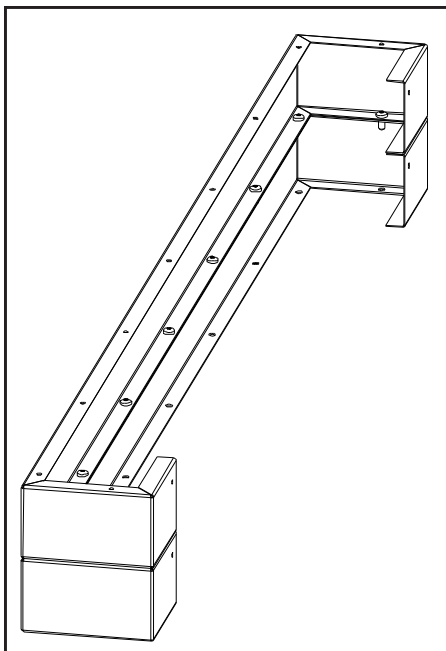

Figure 35: Combining 2 Base Shelf Riser.
2. When using more than one riser each level must be attached using nine (9) #8 T-20 screws provided (see Figure 35).